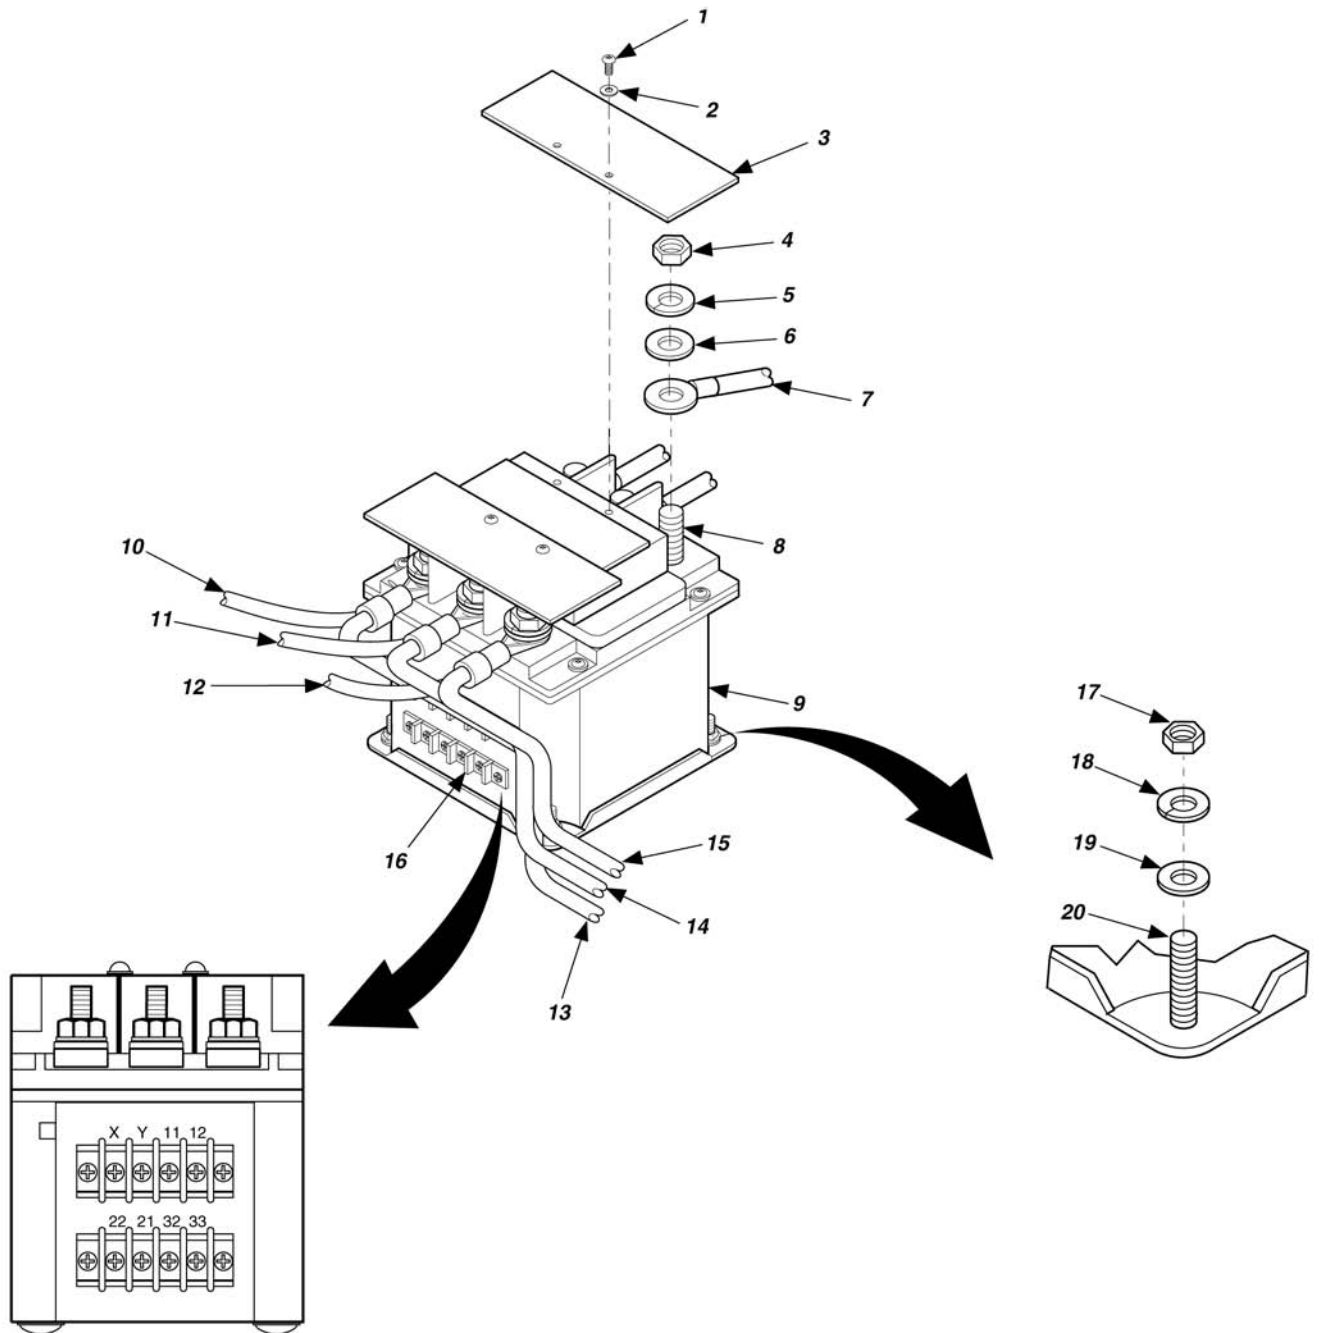

Figure 5-19. Replace Contactor
1. Remove four screws (1, figure 5-19), lock washers (2) and terminal shields (3) from contactor (9).
2. Remove nuts (4), lock washers (5), and flat washers (6) from all contactor terminals (8).